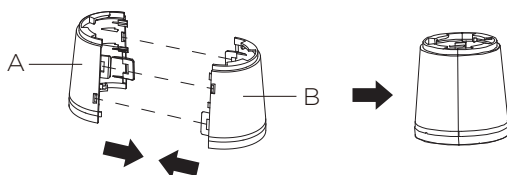

Fig 1
1. Take out the two parts of the pole from packing box. Assemble two parts A and B of pole together as Fig 1.